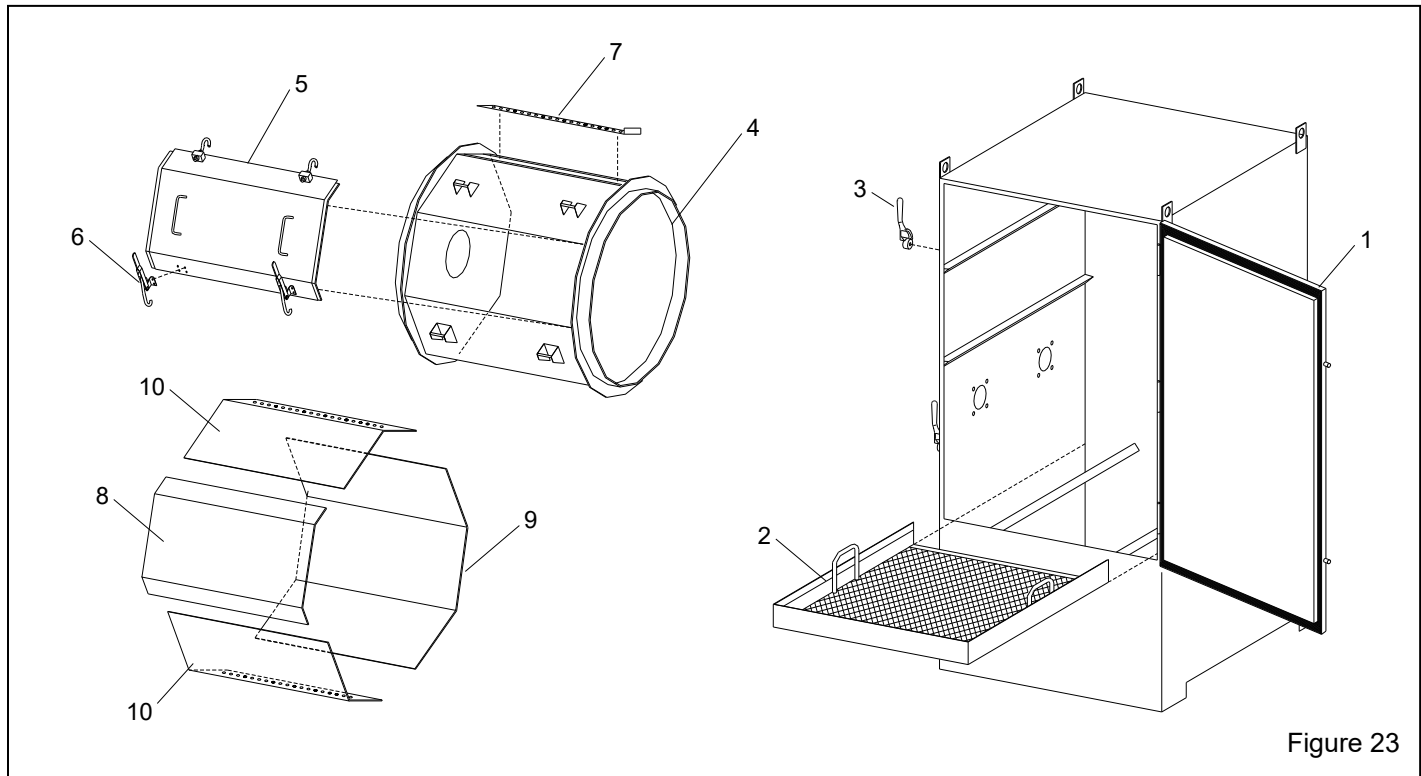

Figure 23
9.3 Cabinet and Barrel Assembly – Figure 23